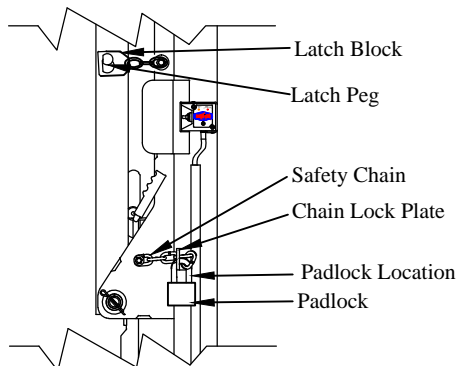

Figure 3: Step 5.
- Step 5. Unlock and remove the Padlock. Move the Safety Chain from the Chain Lock Plate. Put the Padlock in the same location it was removed from (Figure 3).